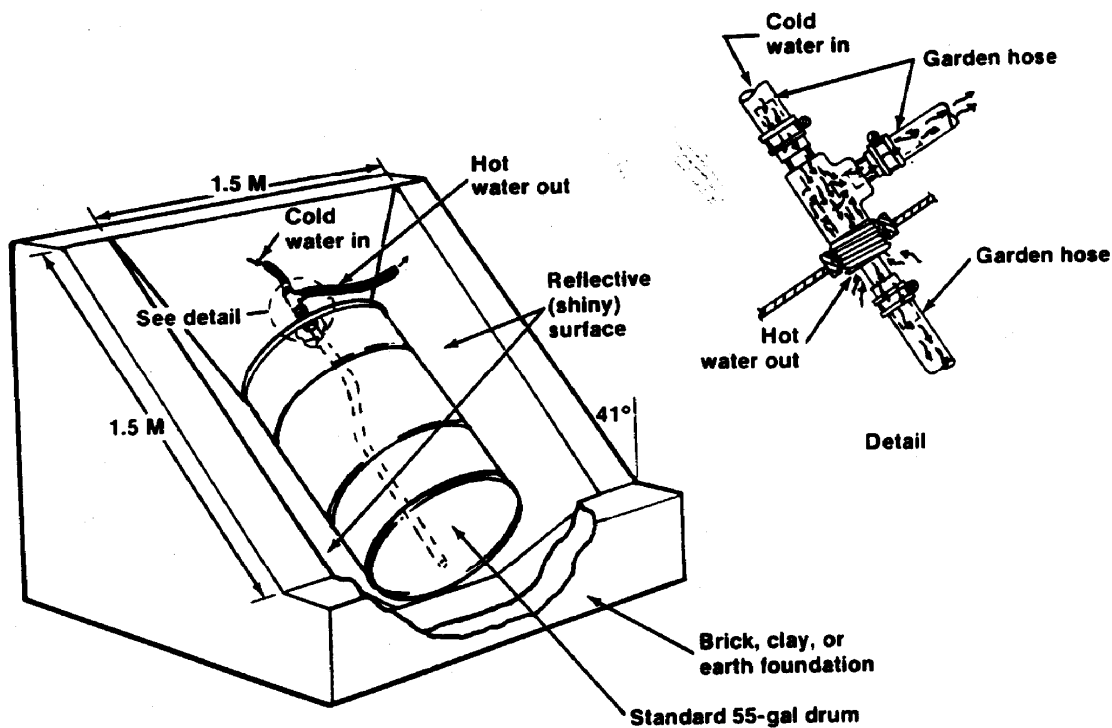

Figure 1. Solar batch heater
4. Set the third row of blocks on only three walls (west, north and east) to begin the incline of the west and east walls (see Figure 1).
The finished frame's east and west walls will have a 42-45 degree incline from top to bottom (north to south). (See Figure 1.)